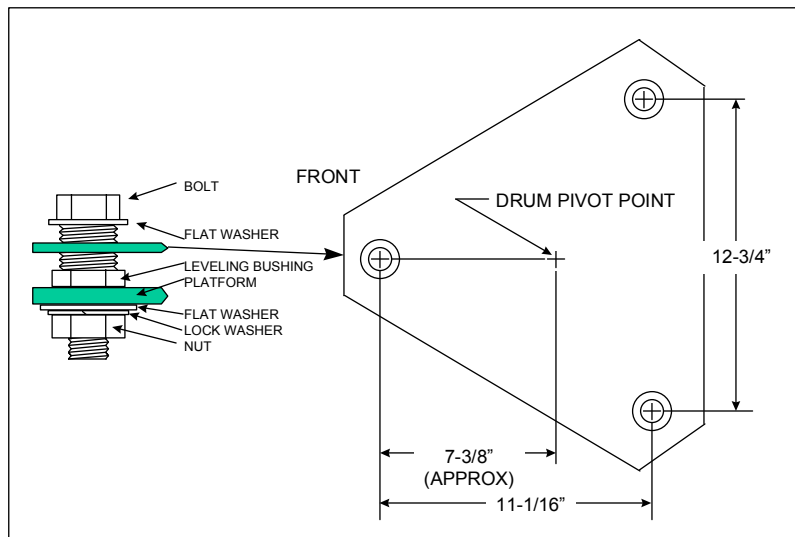

Figure 3-17
- a. The lantern must be installed on a stable platform to ensure that accurate aim is maintained. Secure the lantern to the platform using 3/8" bolts as shown in Figure 3-17.